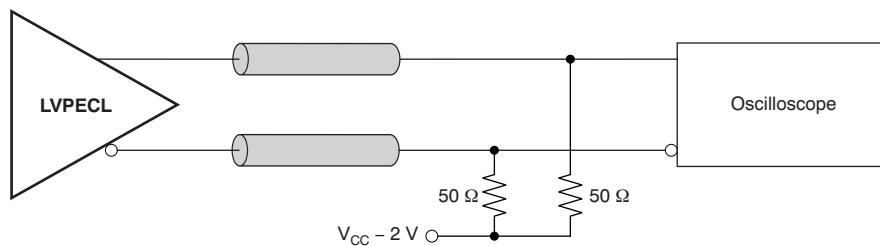

Figure 10. LVPECL Output DC Configuration During Device Test
(1) Figure 10 and Figure 11 show dc and ac test setup.
(2) Parameter is specified by characterization. Not tested in production.
(3) Input source: 122.88 MHz Rohde & Schwarz SMA100A Signal Generator.
(4) Input source RMS Jitter ($t_{RJIT,IN}$) and Total RMS Jitter ($t_{RJIT,OUT}$) measured using Agilent E5052 Phase Noise Analyzer. Buffer device random additive jitter computed as: $t_{RJIT} = \text{SQRT}[(t_{RJIT,OUT})^2 - (t_{RJIT,IN})^2]$.
(5) Input source: 156.25 MHz Rohde & Schwarz SMA100A Signal Generator.
(6) Input source: 312.5 MHz Rohde & Schwarz SMA100A Signal Generator.